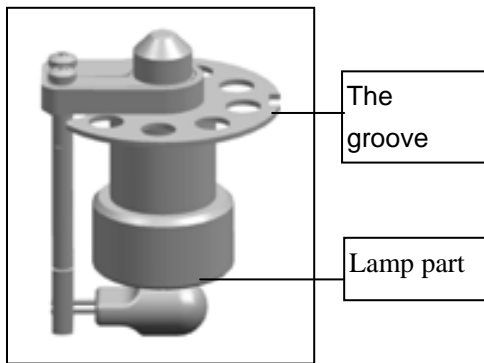

Fig.4.5.3
3. Loosen the two quick disposal screws and take out the old lamp part (Fig.4.5.2), replace it with a new one. The groove in the bulb fixation disc should be aligned with the flange of the lamp base, otherwise the illumination may be uneven (Fig.4.5.3), Fix the lamp part with three knobs.